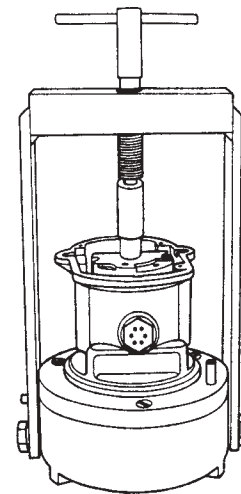

Figure 7.2.1
- E. Place T-151 cam and rotor set onto the end of the rotor shaft and turn T-handle until the shaft bottoms in magneto frame. (See Figure 7.2.1.)